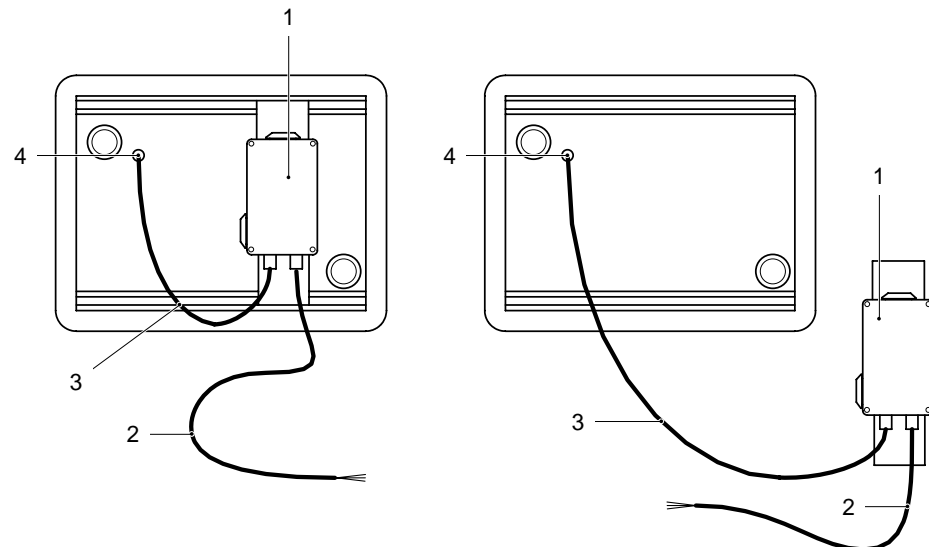

Figure 7-8 Fixed installation with constant power supply (230 V mains operation)
- (1) Insert the M12 plug of the DFS 600 connector cable (Figure 7-8 Item 3) from the power supply unit box (Figure 7-8 Item 1) into the connection socket (Figure 7-8 Item 4) on the back of the DFS 600 and screw tight.
- (2) Connect the mains cable (Figure 7-8 Item 2) to the mains. The DFS 600 is now powered up.
- (3) Perform a functional test of the display with a hand movement.